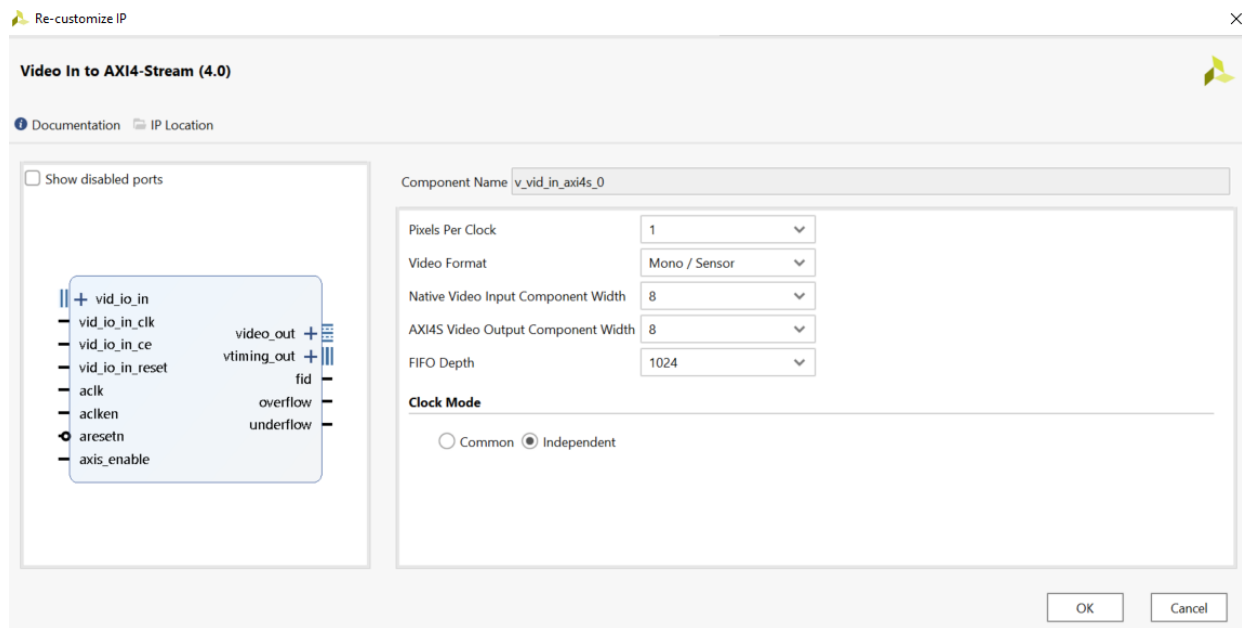

Figure 8: Bit-extraction component sensitive to active video control signal
1. The video and the AXI4-stream frequencies are respectively set to 22.5 and 108 MHz. Firstly, add a “Video In to AXI4-stream” component. The video stream is transformed to respect the AXI4-stream format. Configure the IP to support an 8-bits grey level format. The IP include a FIFO memory that you could set to 1024. Select independent clocks to handle with the two clocks (axi4s and video) as presented in figure 8.